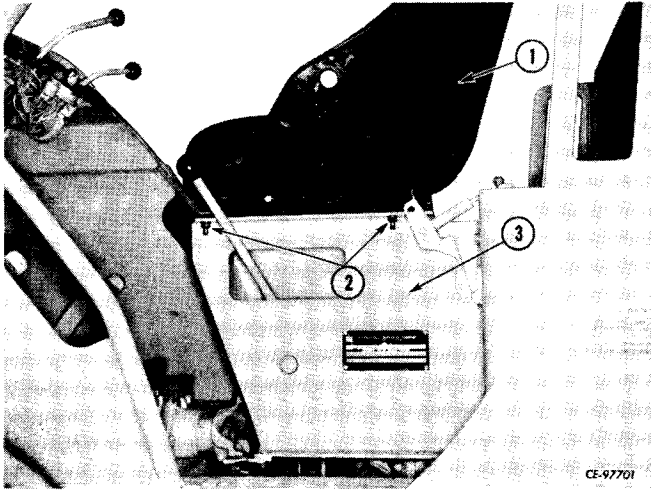

Figure 4-4
Remove operator's seat (1, Fig. 4-4) from seat base (3) by removing nuts and lock washers (2), on each side.
Position operator's seat (1, Fig. 4-4) on seat base (3). Install and tighten nuts and lock washers (2).